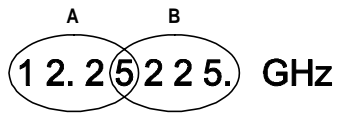

Figure 7. Downlink frequency low and high-resolution display
**Downlink frequency:** (see Figure 7) For example; if the current Downlink frequency is 12.25225 GHz, changing to Alt-1 Mode (ALT LED flashes) and then pressing 7 displays the four most significant digits on the front panel (i.e., 12.25). At low resolution (A), pressing the up  $\uparrow$  or down  $\downarrow$  arrow button advances the frequency up or down in 10 MHz steps (i.e., 12.26, 12.27, and so on). Pressing and holding down the up  $\uparrow$  or down  $\downarrow$  arrow button will increase the step size further.